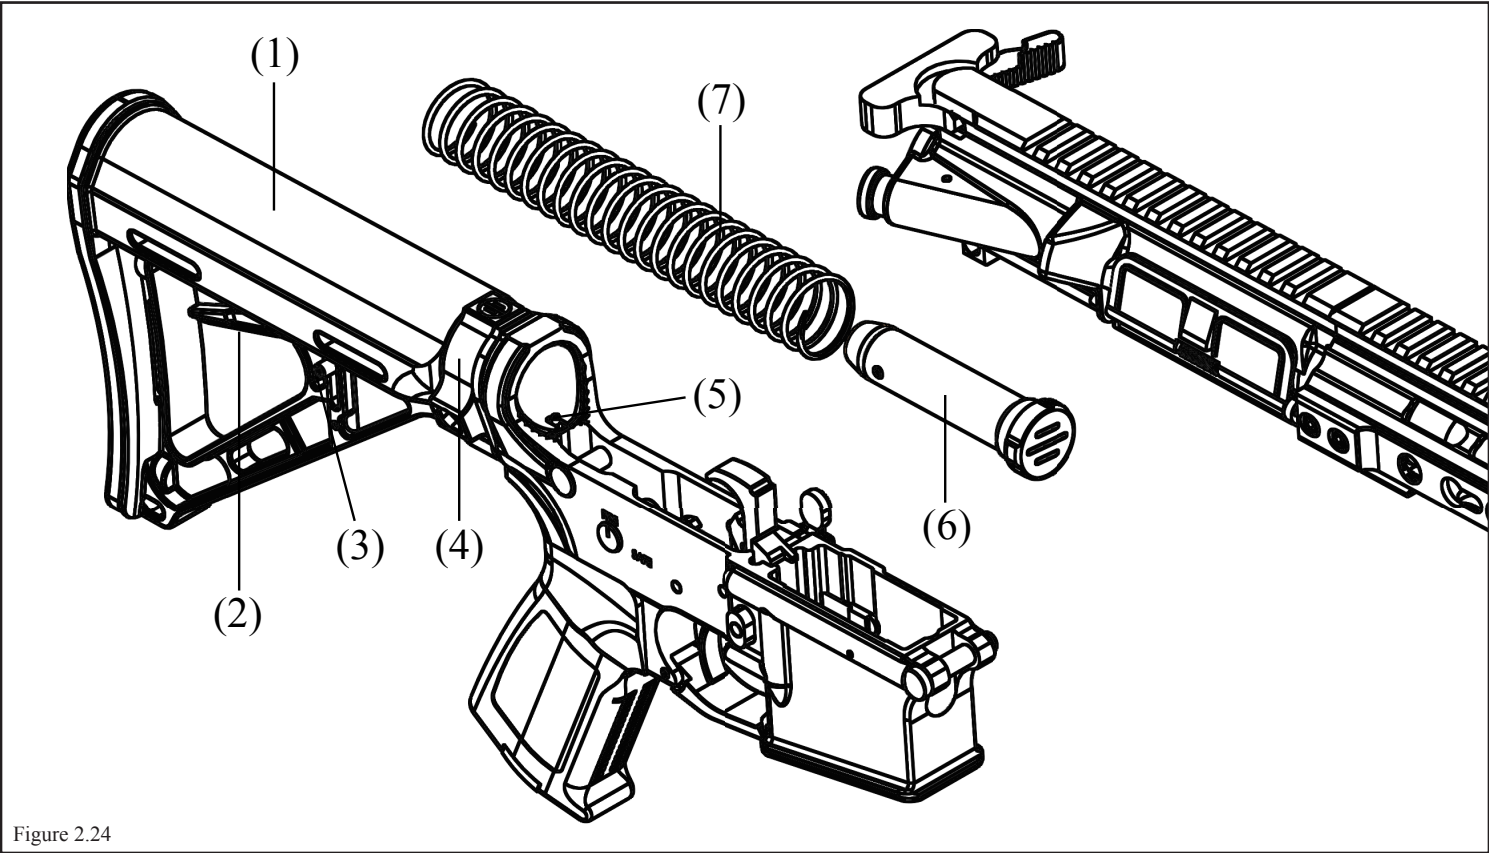

Figure 2.24
1. Extend buttstock assembly (Fig. 2.24: 1, 2).
2. Pull down sharply on lock release lever (3), depress buttstock lever (2), and pull stock rearward and off of the buffer tube (4).
3. Push the buffer retaining pin (5) down to allow the buffer (6) and buffer spring (7) to move forward. Remove buffer and buffer spring.
1. Inspect buffer assembly (Fig. 2.24, 6). If cracked, replace.
2. Check free length of buffer spring (7). Free length should be 10 9/16 inches (26.83 cm) minimum to 11 inches (27.9 cm) maximum. If not, replace. Do not attempt to adjust the length by stretching the buffer spring.
1. Press buffer spring (Fig. 2.24, 7) and buffer assembly (6) into the buffer tube until buffer retaining pin engages.
2. Slide buttstock (1) over buffer tube (4). Pull down on lock release lever (3) and slide stock all the way forward.